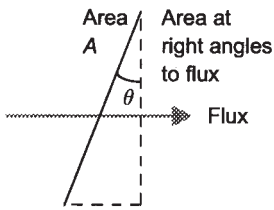

Figure 10.16 Flux passing through an area
The unit of flux density is the tesla (T), when the flux Φ is in webers (Wb) and the area A in square metres. If the flux does not pass at right angles through the area but makes some angle θ to the axis at right angles to the area (Figure 10.16), then since the area at right angles to the flux is now $A \cos \theta$, the flux density is: